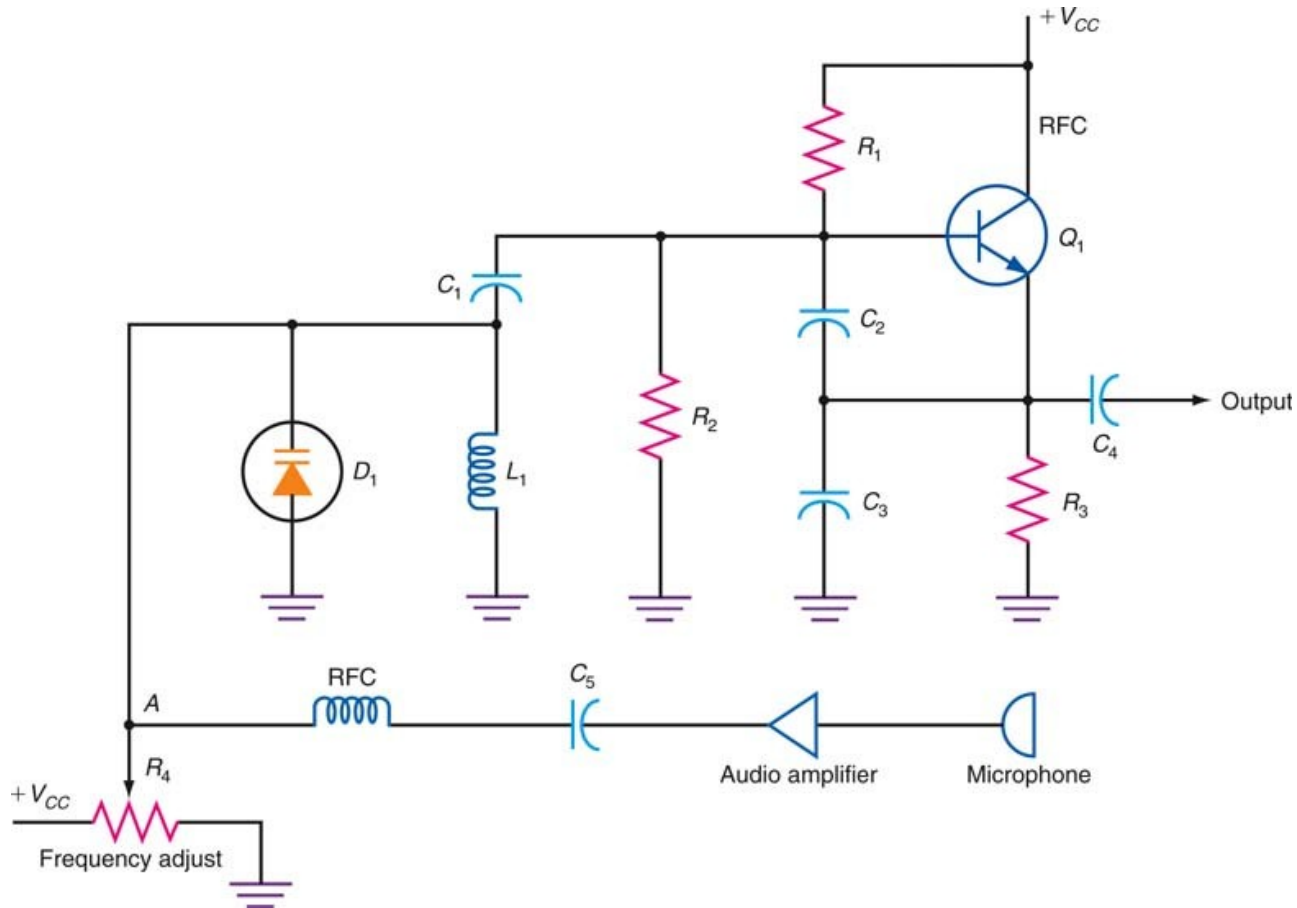

Figure 6-4: A direct-frequency-modulated carrier oscillator using a varactor diode.
- In Figure 6-4, the capacitance of varactor diode  $D_1$  and  $L_1$  form the parallel tuned circuit of the oscillator.